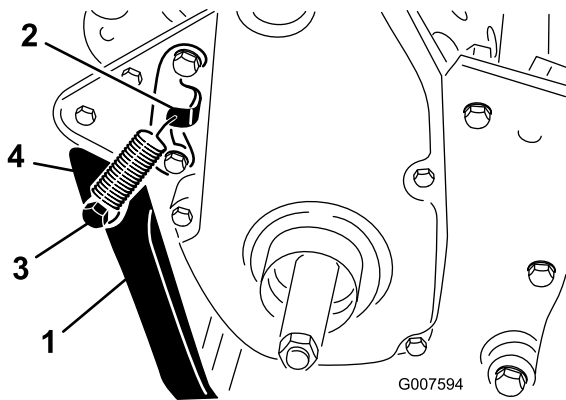

Figure 6
2. Hook the spring into the hole in the spring bracket and onto the spring stud while aligning the kick stand with the mounting holes in the rear frame (Figure 6).